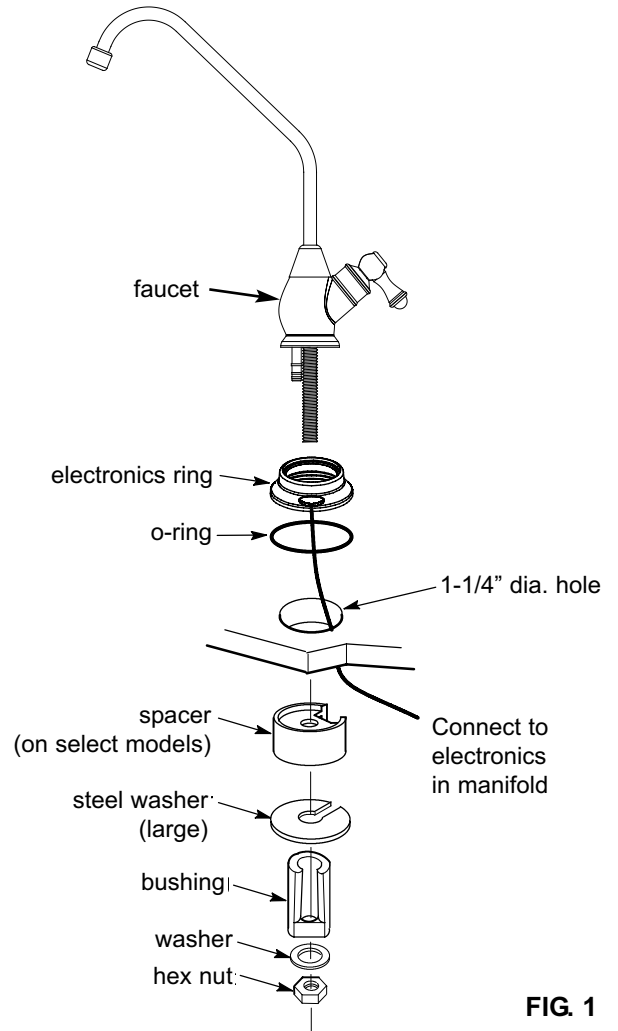

FIG. 1
4. Snap the o-ring in the groove on the bottom of the ring and slide the monitor ring onto the faucet stud. The monitor ring LED wire must be routed through the sink or countertop hole and through the spacer, if used. Refer to Fig. 1.
7. On the underside of the sink or countertop, install the spacer (if included), plastic bushing, flat washer, and hex nut. Refer to Fig. 1. Slide the large steel washer in place, between the bushing and spacer (if included). Then, tighten the hex nut securely. Make sure that the LED wire is in a position so that it will not be cut, pinched or kinked before tightening the faucet assembly.